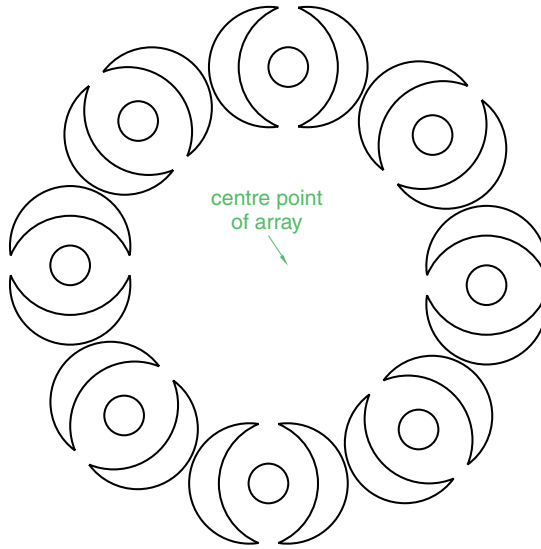

Fig. 5.22 Second example – **Array**
Second example – Polar Array (Fig. 5.22)
4. The dialog reappears. Click its **Preview<** button and when the array appears with its warning dialog, if satisfied with the result, click the **Accept** button of this dialog (Fig. 5.22).